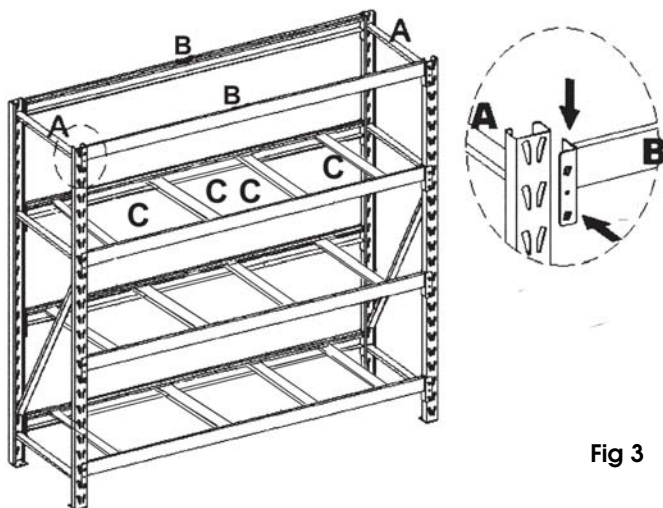
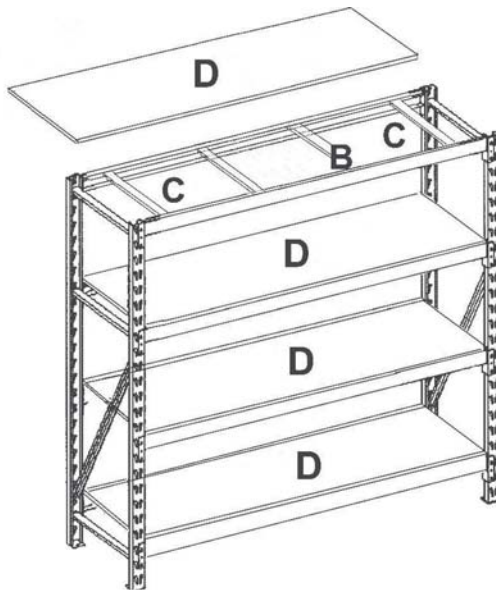

Fig 3
Fig 4
- Ensure the last two beams (B) are set into the top two keyholes of the upright frames as shown in Fig 3.
- Position the deck supports (C) to span between the beams (B), engaging the support end in the socket provided in the beam. Four supports per shelf are required at the positions shown.
- Place the deck panels (D) onto the deck supports, resting on the top flange of the beams. Make sure the deck panels sit properly between the beams and lay flush as shown in Fig 4.